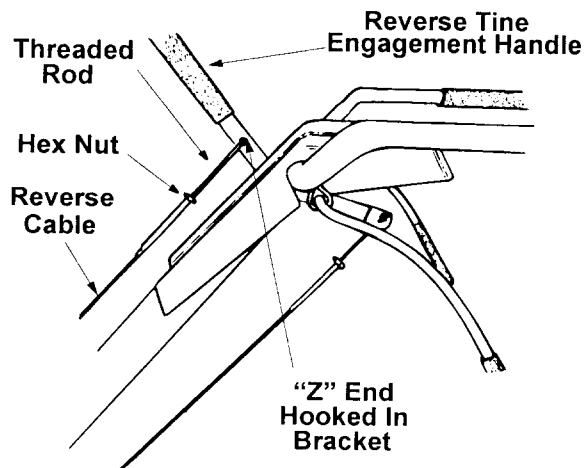
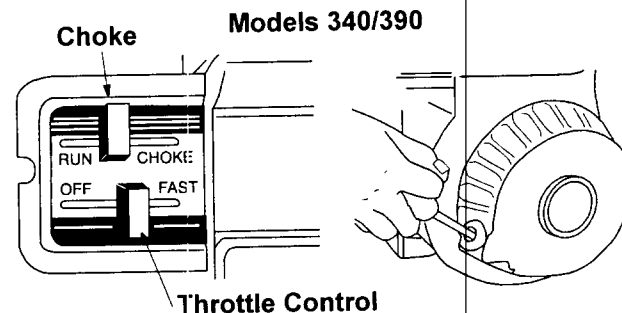

Figure 6 Model 390
Figure 8
2. Unthread the rod from the rest of the cable. Hook the "Z" end of the rod into the bracket underneath the handle assembly from the right hand side. (See Figure 6.)
3. With tine engagement handle in neutral (released) as shown in Figure 8, pull the starter rope several times. **The tines should not turn.** If they turn forward, loosen the hex nut on the forward cable (underneath the handle assembly). See Figure 6. If they turn toward the rear (model 390 only), loosen the hex nut on the reverse cable (above the handle assembly). Unthread the rod from the cable 2 or 3 turns. Retighten the hex nut, and check again for correct adjustment. See Figure 8.
The choke lever is located above the throttle control. It is used to enrich the fuel mixture when starting a cold engine. (See Figure 8).
The forward tine engagement handle is located beneath the tiller handle. (See Figure 8). Squeezing the handle up against the tiller handle engages the tines. Release the handle to stop the tines.
The reverse tine drive clutch lever is located on top of the handle panel. (See Figure 6). Pull the lever to the rear to move the tines in reverse. Release the lever to stop the reverse tine drive.
3. Place the throttle control lever in FAST position. (See Figure 8).